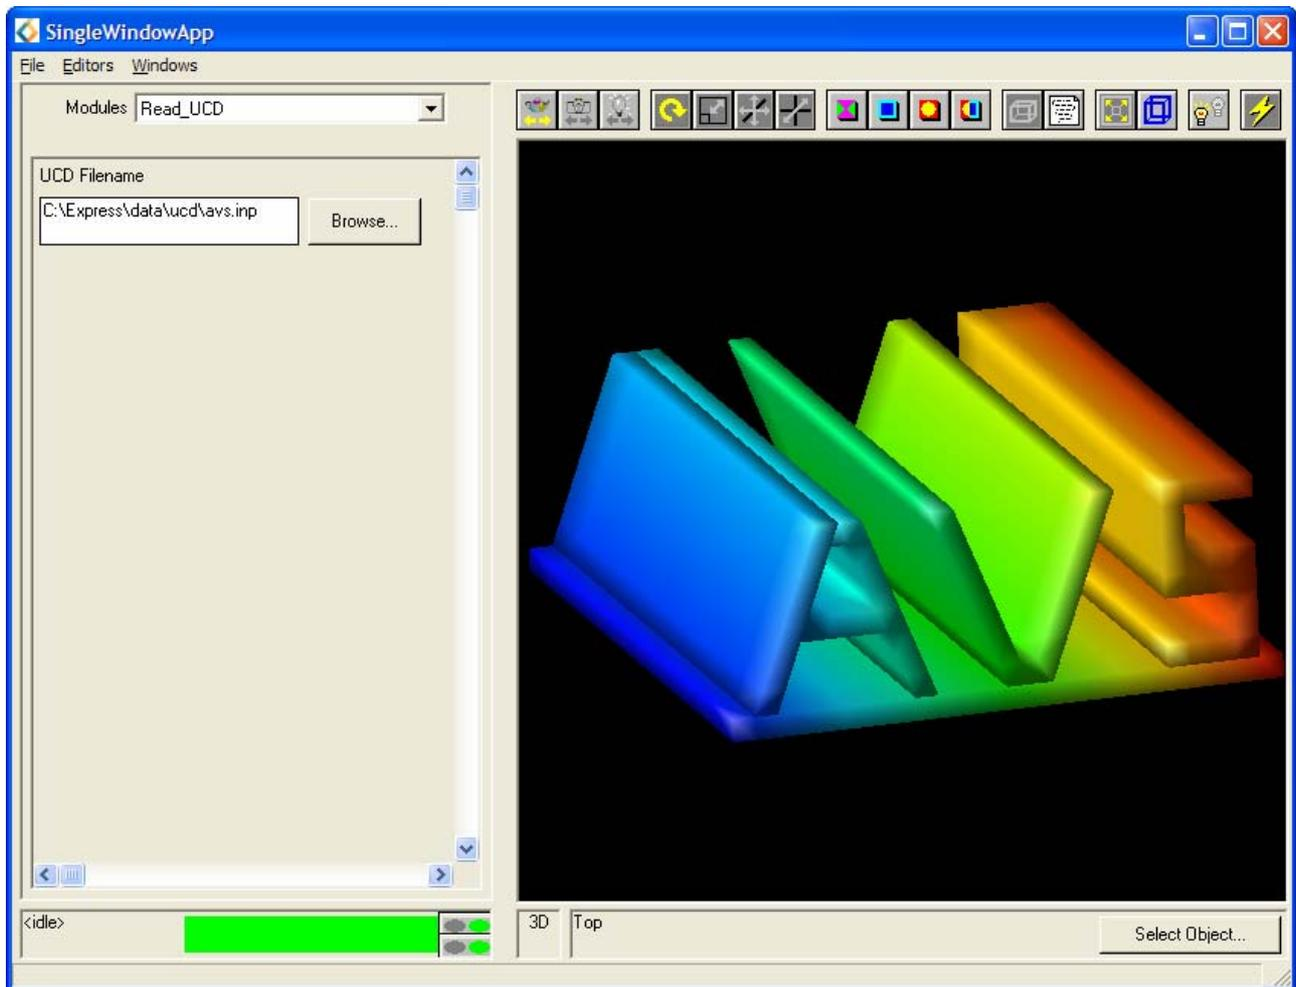

Figure 5.2: Visualization of UCD Data
- Using the mouse transform and rotate the object until the image is similar to the one shown in Figure 5.2.